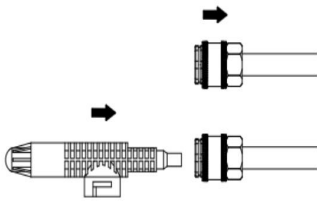

Fig.10
- Install the soap nozzle (black) on the spray lance as shown in Fig.10.